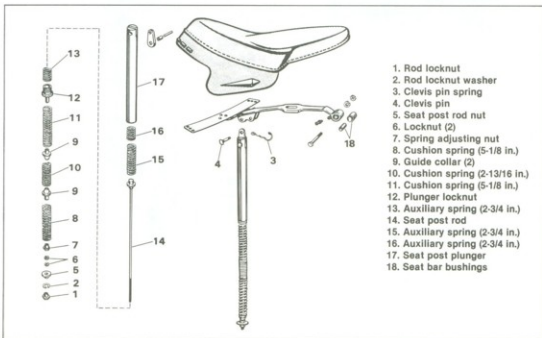

Figure 2-100. Seat Post
SOLO SADDLE (Figure 2-100)
2. Check the spring lengths against the measurements given in Figure 2-100. Replace any springs that are worn or stretched.
3. Replace the seat bushings (18) if worn.